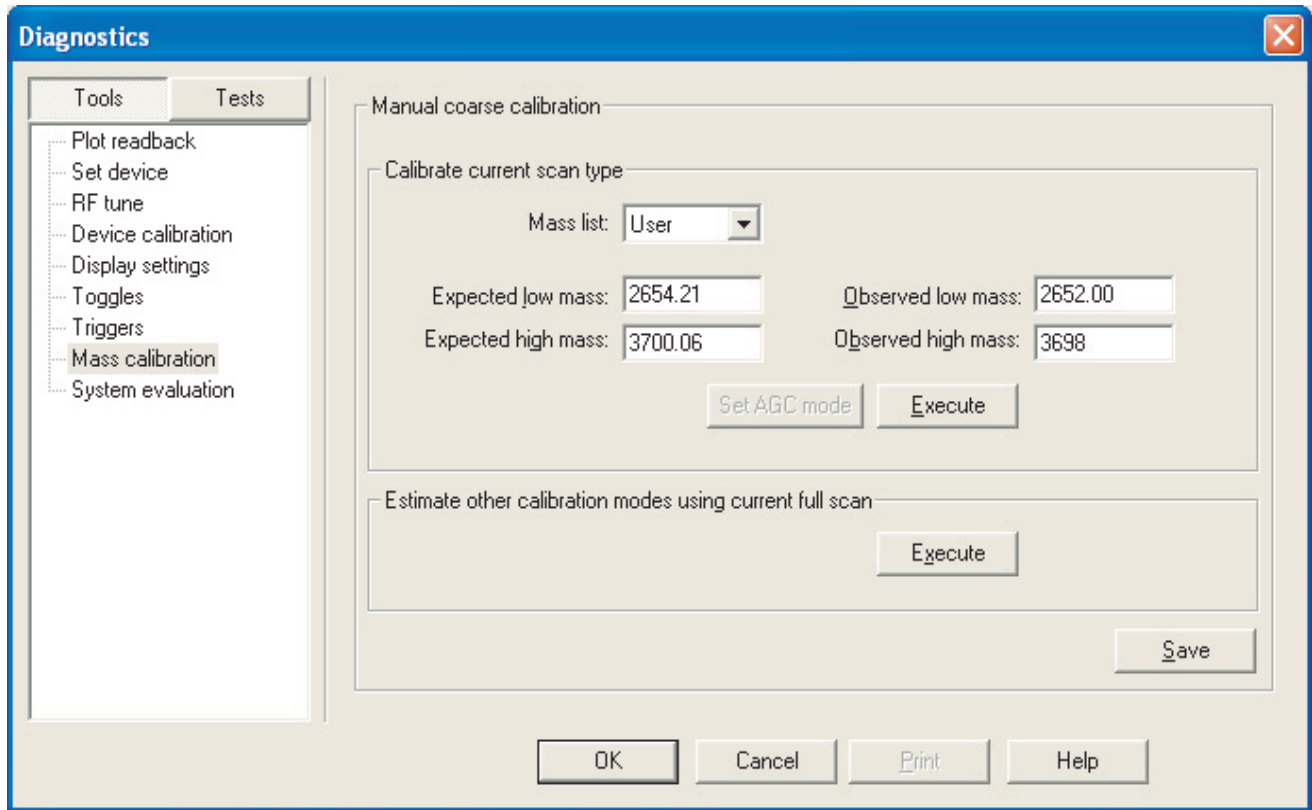

Figure 71. Tune Plus Diagnostics dialog box, two point high mass calibration
3. Do a two point-mass calibration. Use the Tune Plus Diagnostics dialog box (Figure 71). Access the Diagnostics dialog box as instructed in “Enter Normal Mass Range Data into Tune Plus” on page 144. Type the high mass values as shown in Figure 71. Click **Execute**, click **Save** and close the window.